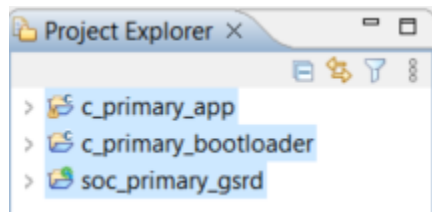

Figure 8.27. Workspace
27. Press **Ctrl + s** to save the change as shown in Figure 8.27.